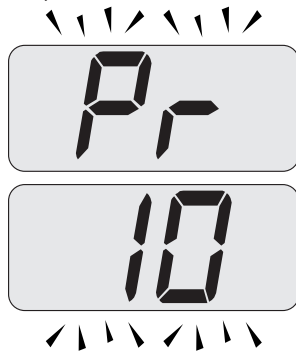

Fig. 8.24
display, indicating that "parameter 10" (Fig. 8.24) has been activated.
- Press keys 16 and 17 (Fig. 8.22) at the same time to exit without changing the value (return to the parameters list Fig. 8.24).